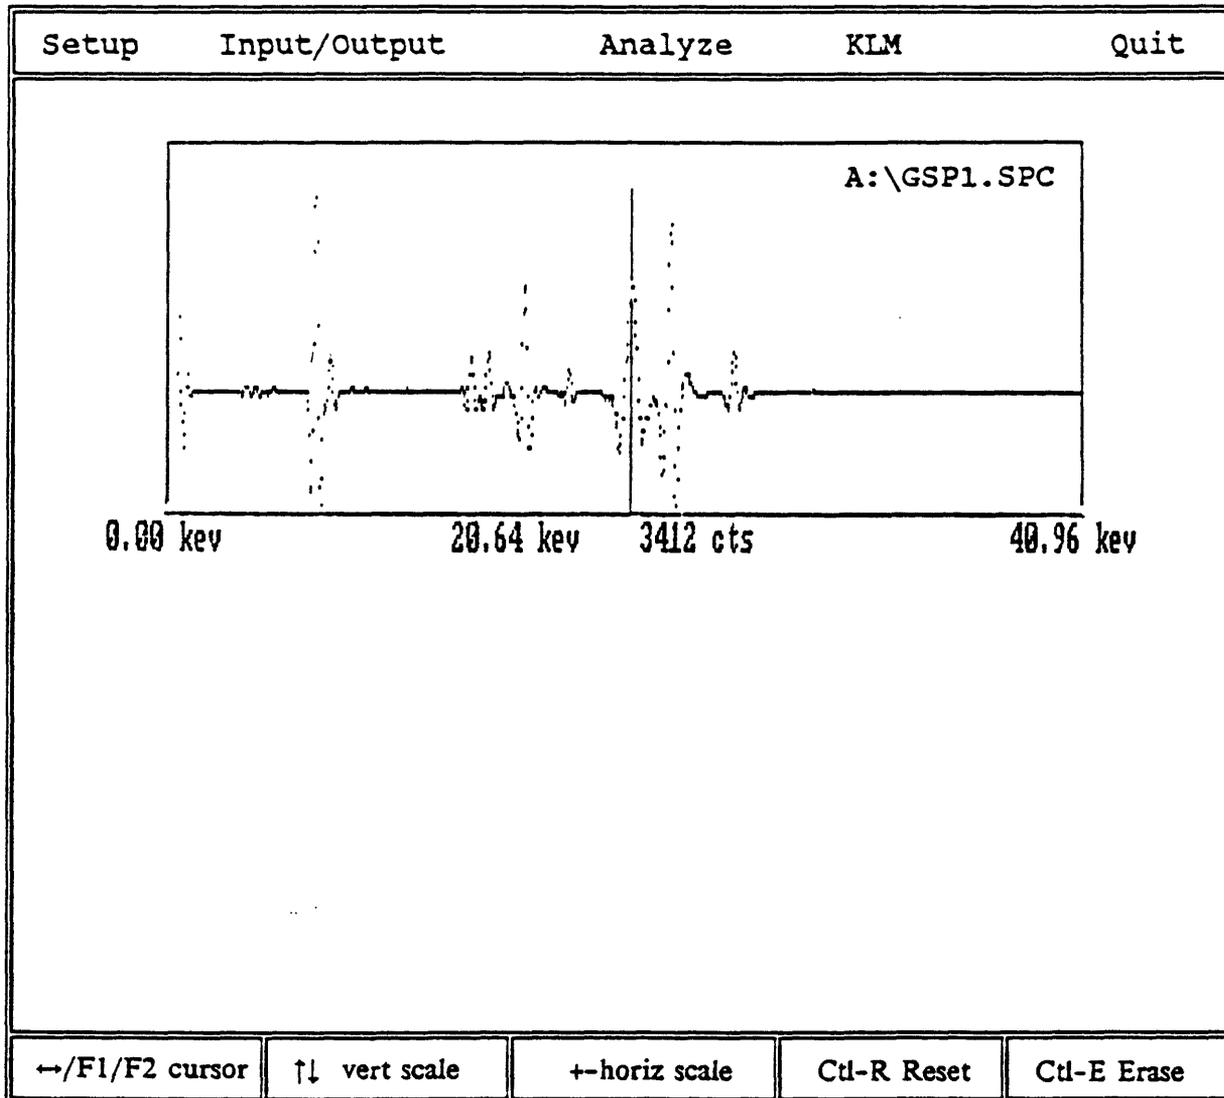

Figure 16. Spectrum after a digital filter has been applied.
*Filter spectrum* digitally filters a spectrum shown on the screen. The filtered spectrum is displayed in its place (fig. 16).